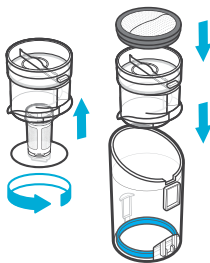
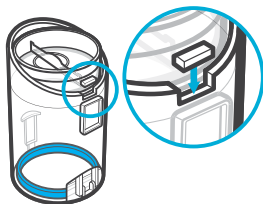

Figure 3.4
Figure 3.5
7. Reassemble [Figure 3.4]. When reassembling, make sure the tab on the inner chamber is aligned with the slot in the dust bin [Figure 3.5]. Place all parts back on the vacuum body.